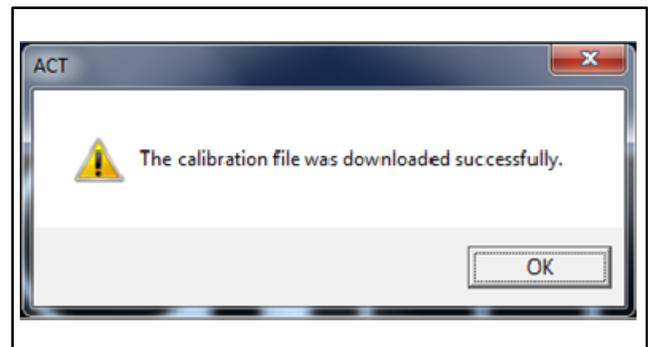

Figure 16 Downloaded Successfully Screen
- Battery volts (12)
4.15 When the calibration file was downloaded successfully, select "OK". See Figure 16.